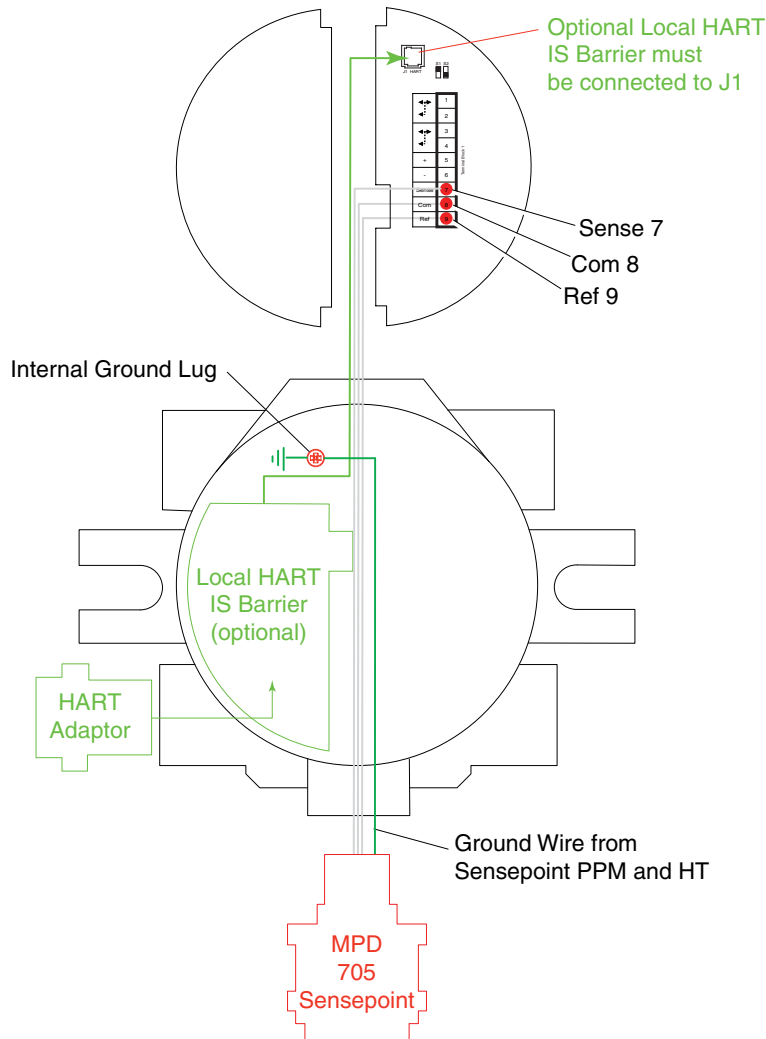
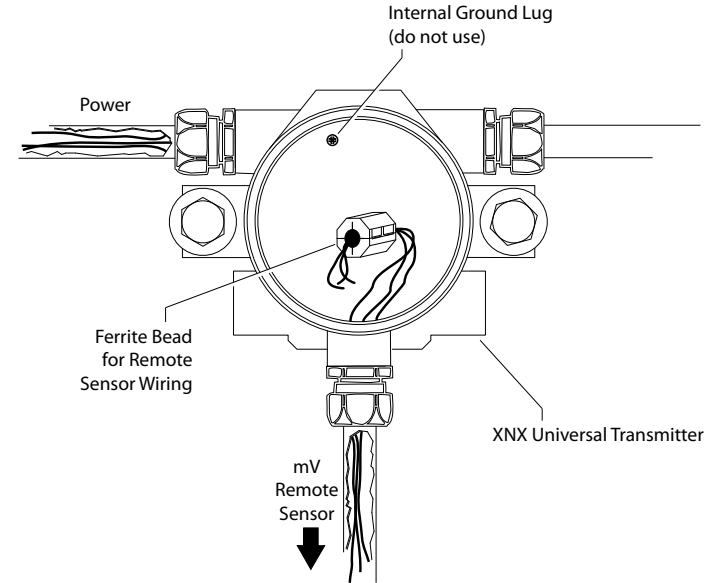

Figure 44. mV personality wiring
Figure 46. Ferrite bead wiring
- Wire the pluggable terminal block as shown in the mV personality board illustration then plug the connector into the back of the mV personality board. In remote mount MPD configurations, the 3 wires connecting the pluggable terminal block and the remote MPD must be routed through the supplied ferrite bead (Honeywell Analytics part no. 0060-1051, supplied in the accessory kit) as shown in Figure 46.
12. At the transmitter, pass the wires through the ferrite bead as shown in Figure 46 and terminate the wiring at the pluggable terminal block as shown in Figure 44.